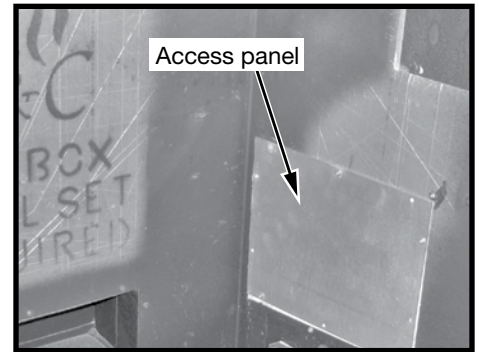

Figure 19: Access panel location.
3. Remove access panel from right hand side of the firebox (Figure 19).